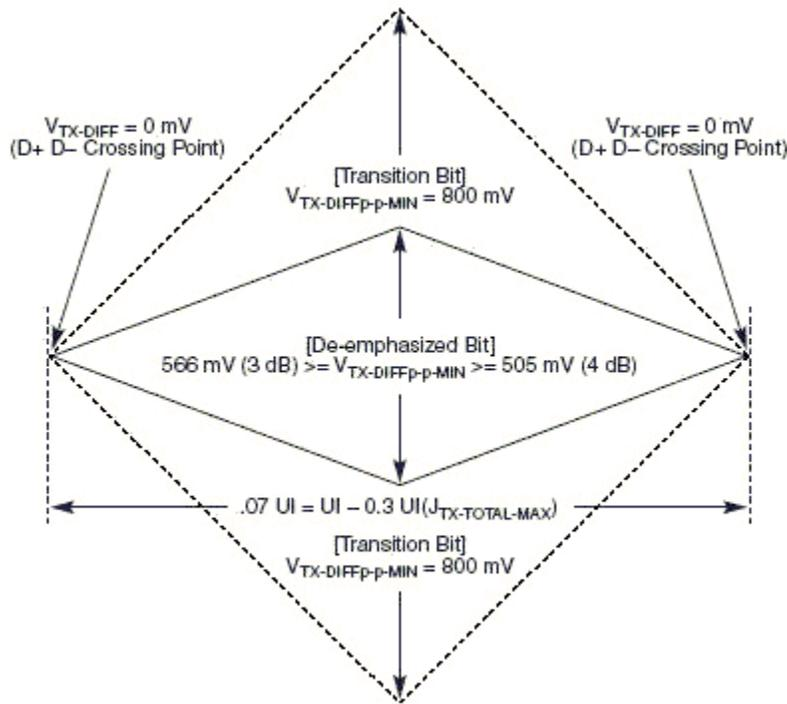
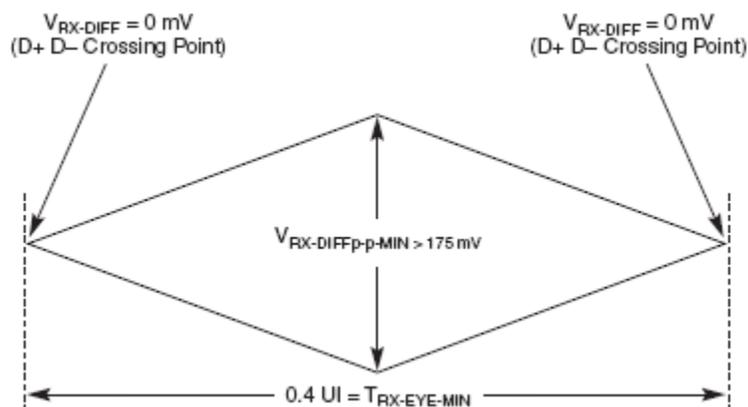
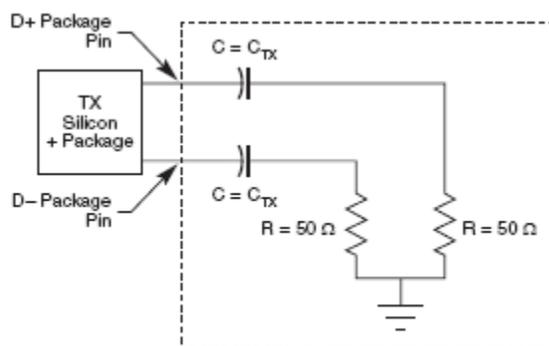

Figure 39. Minimum Transmitter Timing and Voltage Output Compliance Specifications
Figure 40. Minimum Receiver Eye Timing and Voltage Compliance Specification
Figure 41. Compliance Test/Measurement Load
- 2.) Specified at the measurement point into a timing and voltage compliance test load as shown in Figure 41 and measured over any 250 consecutive TX UIs. (Also refer to the transmitter compliance eye diagram shown in Figure 39)
- 4.) The Transmitter input impedance shall result in a differential return loss greater than or equal to 12 dB and a common mode return loss greater than or equal to 6 dB over a frequency range of 50 MHz to 1.25 GHz. This input impedance requirement applies to all valid input levels. The reference impedance for return loss measurements is 50 ohms to ground for both the D+ and D- line (that is, as measured by a Vector Network Analyzer with 50 ohm probes—see Figure 41). Note that the series capacitors C_{TX} is optional for the return loss measurement.
- 5.) Measured between 20-80% at transmitter package pins into a test load as shown in Figure 41 for both $V_{\text{TX-D+}}$ and $V_{\text{TX-D-}}$.
The TX eye diagram in Figure 39 is specified using the passive compliance/test measurement load (see Figure 41) in place of any real PCI Express interconnect + RX component.
- 2.) Specified at the measurement point and measured over any 250 consecutive UIs. The test load in Figure 41 should be used as the RX device when taking measurements (also refer to the Receiver compliance eye diagram shown in Figure 40). If the clocks to the RX and TX are not derived from the same reference clock, the TX UI recovered from 3500 consecutive UI must be used as a reference for the eye diagram.
- 4.) The Receiver input impedance shall result in a differential return loss greater than or equal to 15 dB with the D+ line biased to 300 mV and the D- line biased to -300 mV and a common mode return loss greater than or equal to 6 dB (no bias required) over a frequency range of 50 MHz to 1.25 GHz. This input impedance requirement applies to all valid input levels. The reference impedance for return loss measurements for is 50 ohms to ground for both the D+ and D- line (that is, as measured by a Vector Network Analyzer with 50 ohm probes - see Figure 41). Note: that the series capacitors CTX is optional for the return loss measurement.
The RX eye diagram in Figure 40 is specified using the passive compliance/test measurement load (see Figure 41) in place of any real PCI Express RX component.
Note: In general, the minimum Receiver eye diagram measured with the compliance/test measurement load (see Figure 41) will be larger than the minimum Receiver eye diagram measured over a range of systems at the input Receiver of any real PCI Express component. The degraded eye diagram at the input Receiver is due to traces internal to the package as well as silicon parasitic characteristics which cause the real PCI Express component to vary in impedance from the compliance/test measurement load. The input Receiver eye diagram is implementation specific and is not specified. RX component designer should provide additional margin to adequately compensate for the degraded minimum Receiver eye diagram (shown in Figure 40) expected at the input Receiver based on some adequate combination of system simulations and the Return Loss measured looking into the RX package and silicon. The RX eye diagram must be aligned in time using the jitter median to locate the center of the eye diagram.
The reference impedance for return loss measurements is 50. to ground for both the D+ and D- line (that is, as measured by a Vector Network Analyzer with 50. probes—see Figure 41). Note that the series capacitors, C_{TX}, are optional for the return loss measurement.
The AC timing and voltage parameters must be verified at the measurement point, as specified within 0.2 inches of the package pins, into a test/measurement load shown in Figure 41.